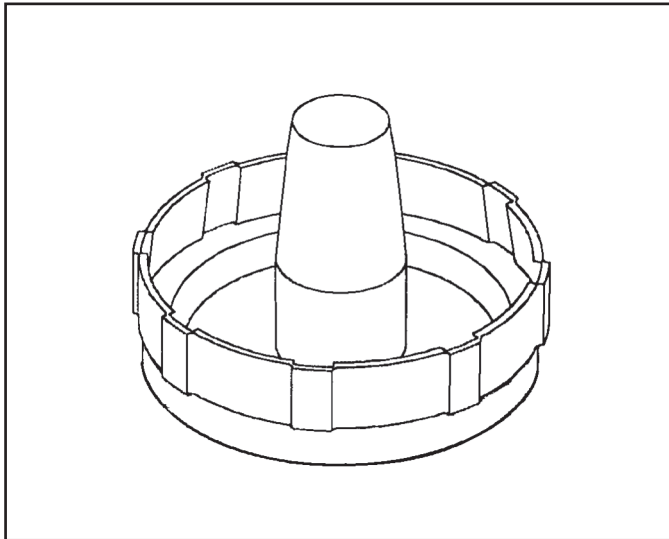

Figure 107
3. To install the 1st clutch drum piston, place the SA9117T-3 tool onto the center hub of the 1st clutch drum as shown in figure 107.